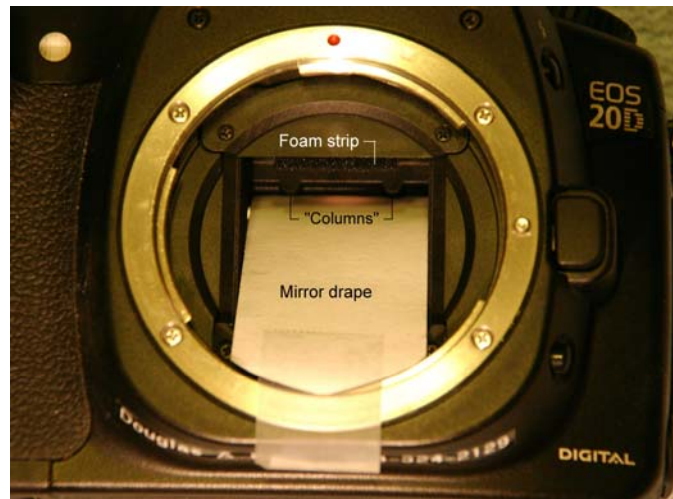
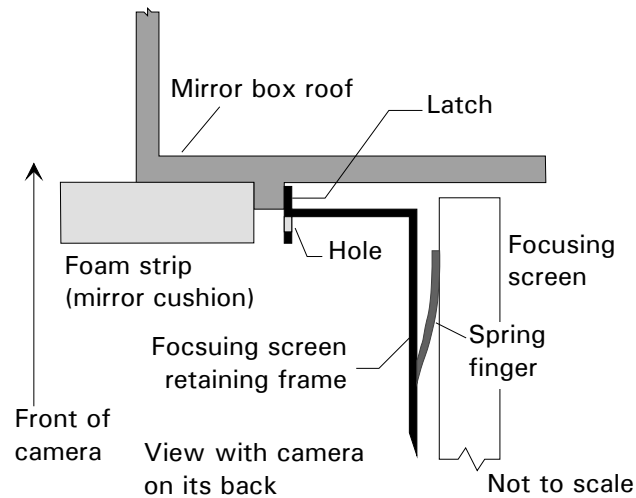

Figure 2. Mirror drape
Figure 4. Retaining frame and latch—section from side (camera on its back)
15. It is desirable to cover the reflex mirror with a paper “drape” to protect the mirror against fingerprints and also against the possibility of scratching by the various parts (or tools!) that may fall on it during the process. Cut a strip of bond paper the width of the reflex mirror (1-1/8”, slightly under 29 mm) and about 2-1/8” (54 mm) inches long. Cut one end to a curve, approximately the radius of the inside of the shiny mount ring. (See figure 2.) Place the strip on the mirror, with the far end lying at the base of the two “columns” and use a
Figure 4 shows the way the frame is latched in place. The foam strip can be seen in figure 2.